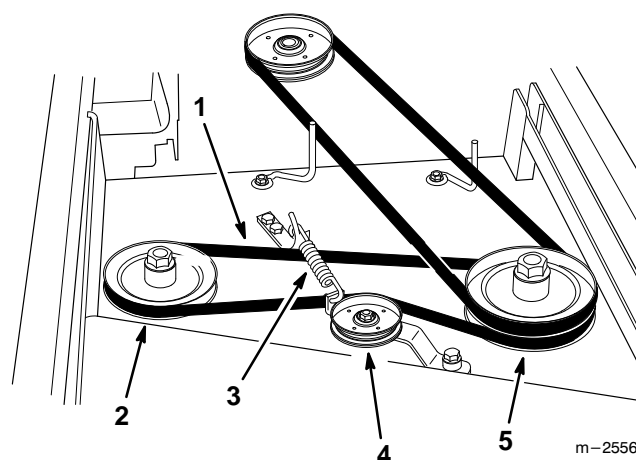

Figure 22
2. Grease the fittings on both spindle bearings (Fig. 22).
4. Disconnect the idler arm spring to relieve tension on the idler arm and idler pulley, then remove the worn deck belt (Fig. 22).
5. Install the new deck belt around the right spindle pulley, idler pulley, and in the lower groove of the left spindle pulley (Fig. 22).
6. Reconnect the idler arm spring (Fig. 22).